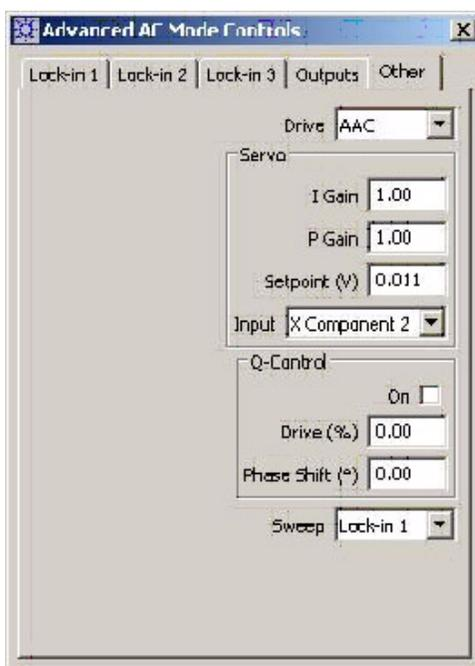

Figure 87 Advanced AC Controls Other tab
- 1 Choose **Controls** > **Advanced** > **AC Mode**, then click the **Other** tab (Figure 87).